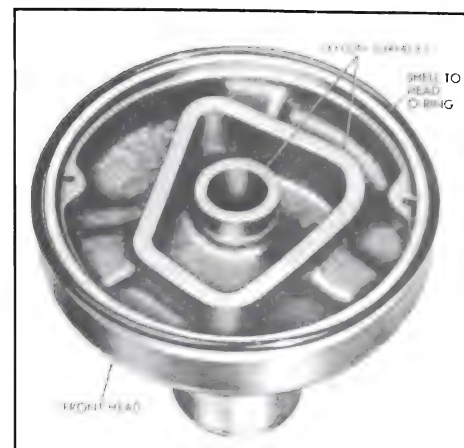

Figure 11-123—Front Head
7. Examine teflon sealing surface on front head for damage and/or deep scratches. Replace if necessary. See Figure 11-123.